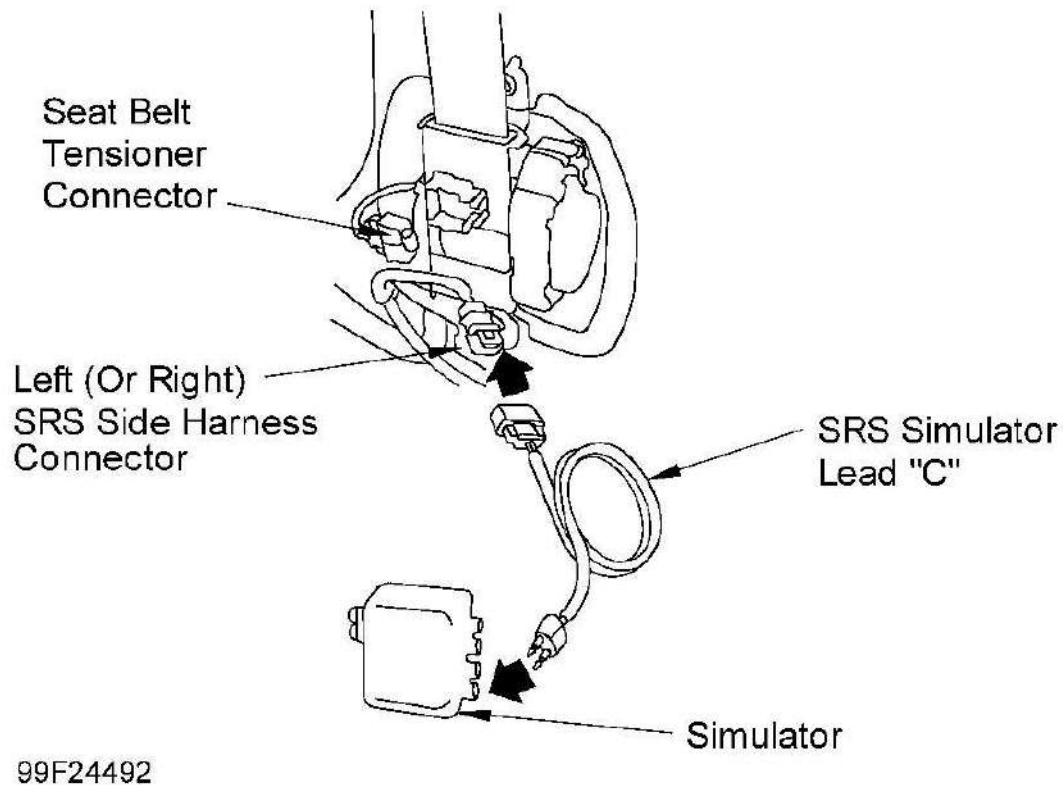

Fig. 27: Locating Seat Belt Tensioner & Side Wire Harness Connectors
2. Disconnect driver-side seat belt tensioner. DO NOT disconnect passenger-side seat belt tensioner connector. Connect SRS Simulator Lead "C" (07TAZ-SZ5011A) and SRS Inflator Simulator (07SAZ-TB4011A) to left SRS side wire harness connector. See **Fig. 27** . Reconnect negative battery cable. Erase DTC memory. Retrieve DTCs. If DTC 3-1 is indicated, go to next step. If DTC 3-1 is not indicated, replace driver-side seat belt tensioner. See **SEAT BELT TENSIONERS** under REMOVAL & INSTALLATION.
2. Disconnect driver-side seat belt tensioner. DO NOT disconnect passenger-side seat belt tensioner connector. Connect SRS Simulator Lead "C" (07TAZ-SZ5011A) and SRS Inflator Simulator (07SAZ-TB4011A) to left SRS side wire harness connector. See **Fig. 27** . Reconnect negative battery cable. Erase DTC memory. Retrieve DTCs. If DTC 3-3 is indicated, go to next step. If DTC 3-3 is not indicated, replace driver-side seat belt tensioner. See **SEAT BELT TENSIONERS** under REMOVAL & INSTALLATION.
2. Disconnect driver-side seat belt tensioner. DO NOT disconnect passenger-side seat belt tensioner connector. Connect SRS Simulator Lead "C" (07TAZ-SZ5011A) and SRS Inflator Simulator (07SAZ-TB4011A) to left SRS side wire harness connector. See **Fig. 27** . Reconnect negative battery cable. Erase DTC memory. Retrieve DTCs. If DTC 3-4 is indicated, go to next step. If DTC 3-4 is not indicated, replace driver-side seat belt tensioner. See **SEAT BELT TENSIONERS** under REMOVAL & INSTALLATION.
2. Disconnect driver-side seat belt tensioner. DO NOT disconnect passenger-side seat belt tensioner connector. Connect SRS Simulator Lead "C" (07TAZ-SZ5011A) and SRS Inflator Simulator (07SAZ-TB4011A) to left SRS side wire harness connector. See **Fig. 27** . Reconnect negative battery cable. Erase DTC memory. Retrieve DTCs. If DTC 3-5 is indicated, go to next step. If DTC 3-5 is not indicated,
2. Disconnect passenger-side seat belt tensioner. DO NOT disconnect driver-side seat belt tensioner connector. Connect SRS Simulator Lead "C" (07TAZ-SZ5011A) and SRS Inflator Simulator (07SAZ-TB4011A) to right side wire harness 2-pin connector. See **Fig. 27** . Reconnect negative battery cable. Erase DTC memory. Retrieve DTCs. If DTC 4-1 is indicated, go to next step. If DTC 4-1 is not indicated, replace passenger-side seat belt tensioner. See **SEAT BELT TENSIONERS** under REMOVAL & INSTALLATION.
2. Disconnect passenger-side seat belt tensioner. DO NOT disconnect driver-side seat belt tensioner connector. Connect SRS Simulator Lead "C" (07TAZ-SZ5011A) and SRS Inflator Simulator (07SAZ-TB4011A) to right side wire harness 2-pin connector. See **Fig. 27** . Reconnect negative battery cable. Erase DTC memory. Retrieve DTCs. If DTC 4-3 is indicated, go to next step. If DTC 4-3 is not indicated, replace passenger-side seat belt tensioner. See **SEAT BELT TENSIONERS** under REMOVAL & INSTALLATION.
2. Disconnect passenger-side seat belt tensioner. DO NOT disconnect driver-side seat belt tensioner connector. Connect SRS Simulator Lead "C" (07TAZ-SZ5011A) and SRS Inflator Simulator (07SAZ-TB4011A) to right side wire harness 2-pin connector. See **Fig. 27** . Reconnect negative battery cable. Erase DTC memory. Retrieve DTCs. If DTC 4-4 is indicated, go to next step. If DTC 4-4 is not indicated, replace passenger-side seat belt tensioner. See **SEAT BELT TENSIONERS** under REMOVAL & INSTALLATION.
2. Disconnect passenger-side seat belt tensioner. DO NOT disconnect driver-side seat belt tensioner connector. Connect SRS Simulator Lead "C" (07TAZ-SZ5011A) and SRS Inflator Simulator (07SAZ-TB4011A) to right side wire harness 2-pin connector. See **Fig. 27** . Reconnect negative battery cable. Erase DTC memory. Retrieve DTCs. If DTC 4-5 is indicated, go to next step. If DTC 4-5 is not indicated, replace passenger-side seat belt tensioner. See **SEAT BELT TENSIONERS** under REMOVAL & INSTALLATION.